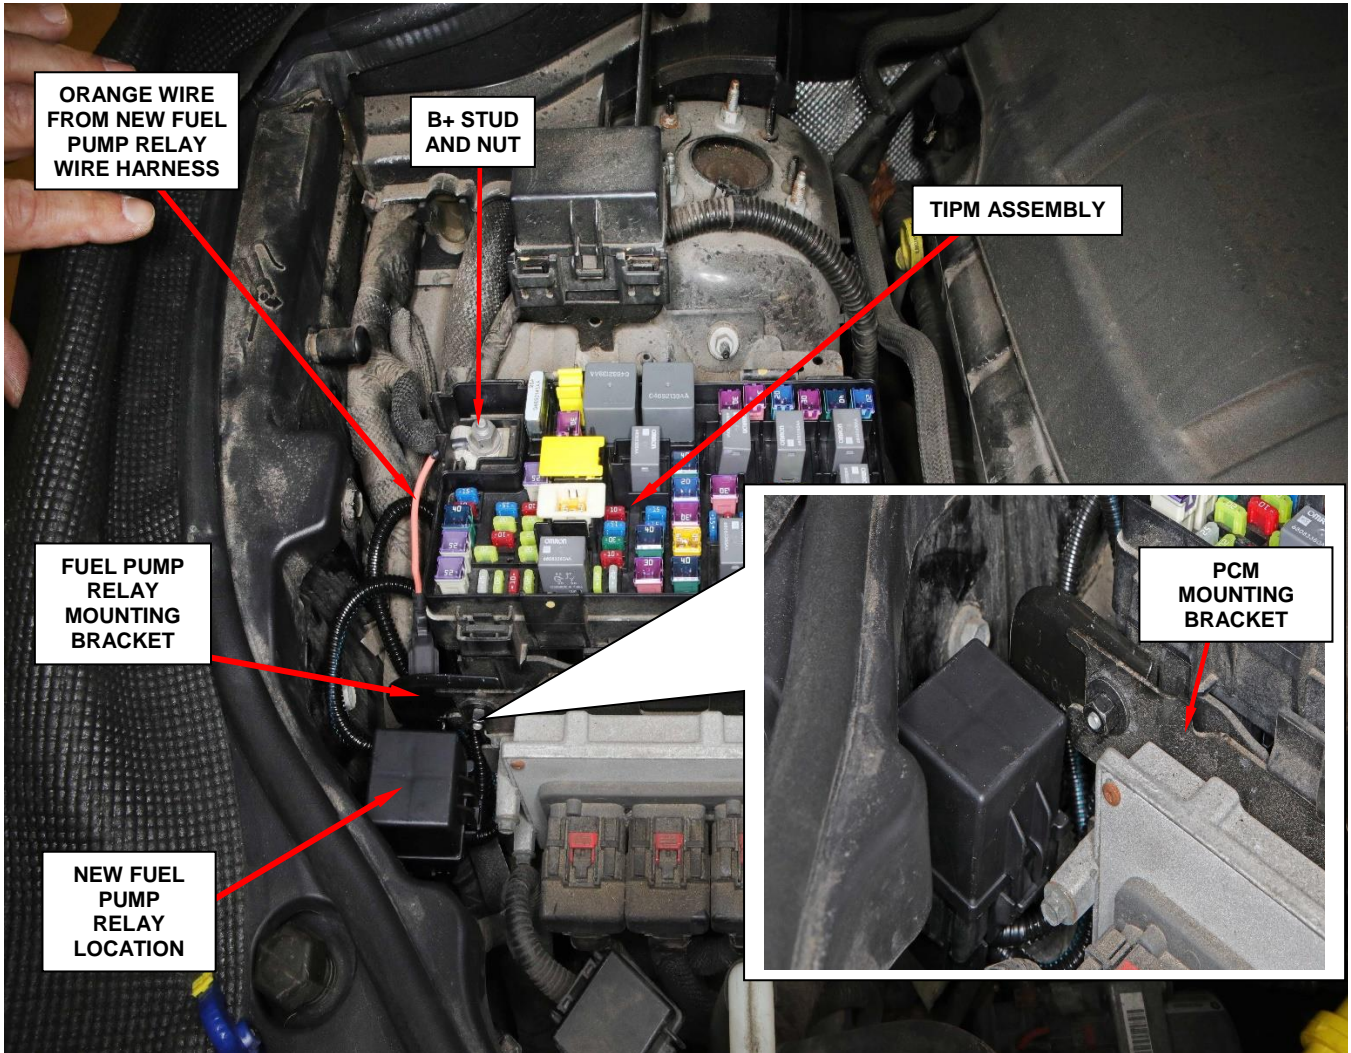

Figure 9 – Fuel Pump Relay Installed
19. Attached the **NEW** external fuel pump relay bracket on to the back of the existing hole on the PCM mounting bracket and tighten the nut and bolt to 6N·m (53in. lbs.) (Figure 9).
20. Connect the original B+ cable terminal to the TIPM B+ stud (Figure 9).
21. Connect the wire eyelet on the orange wire of the **NEW** fuel pump relay wire harness to the TIPM B+ stud (Figure 9).
22. Install the B+ cable terminal retaining nut and tighten the nut to 19 N·m (14 ft. lbs.) (Figure 9).